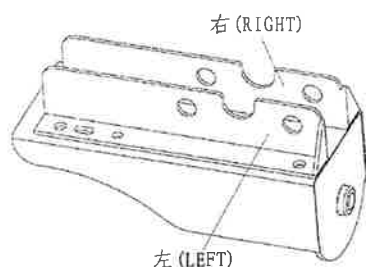

Fig.1
1. According to the Figure 1 shows, installation the PA200 - PA1000 electric hoist which we produced in the left, right hoist connector(4)(note: the left, right connector is different).